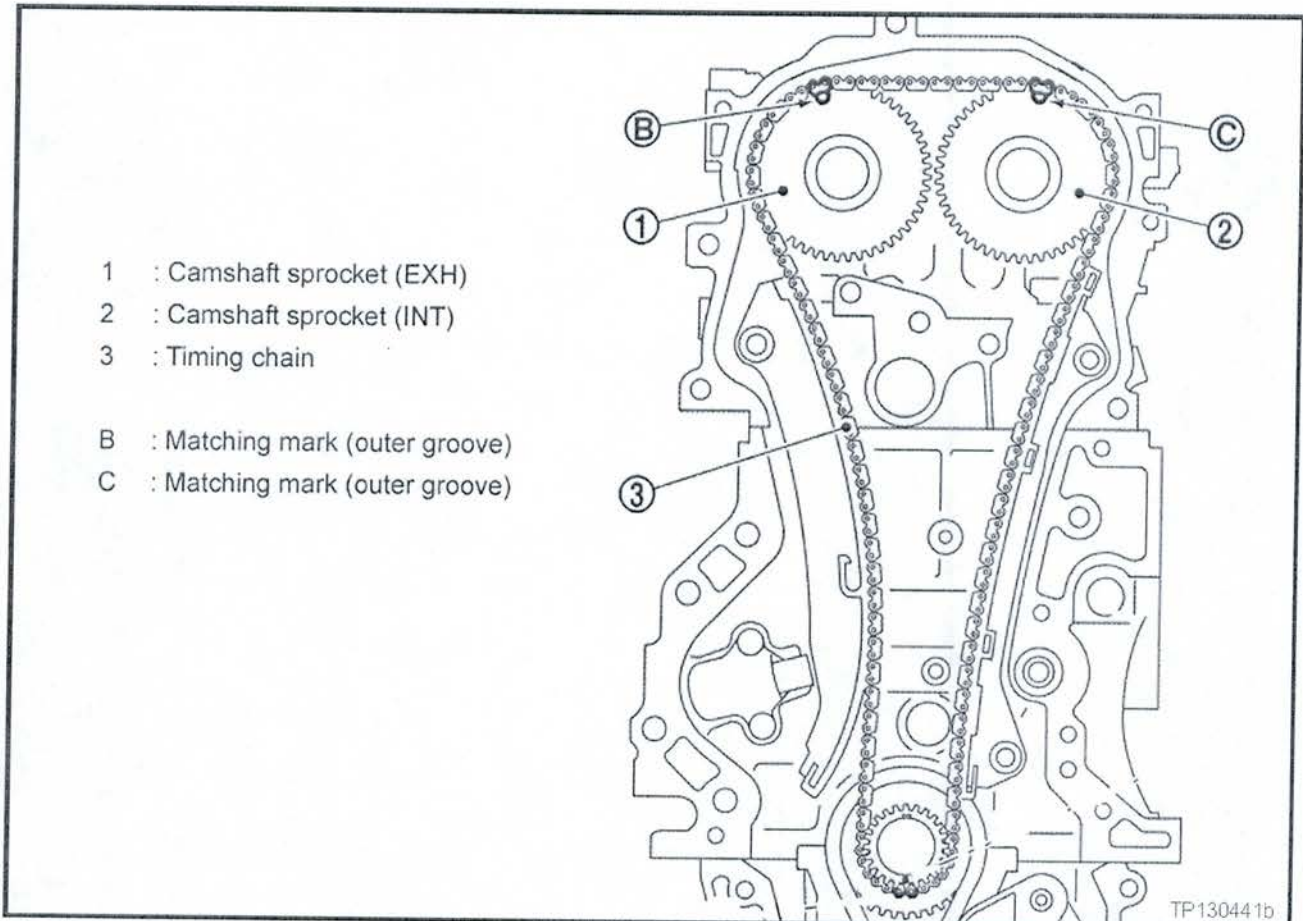

Figure 30
39. Make sure the cam timing marks are in the position shown in Figure 30.
- b. Line up the cam timing marks as shown in Figure 30.